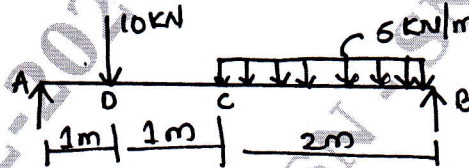

Fig Q5(b)
- b. A beam AB of 4m span is simply supported at the ends and loaded as shown in Fig Q5(b), determine, i) Deflection at mid span ii) Maximum deflection iii) Slope at end 'A'